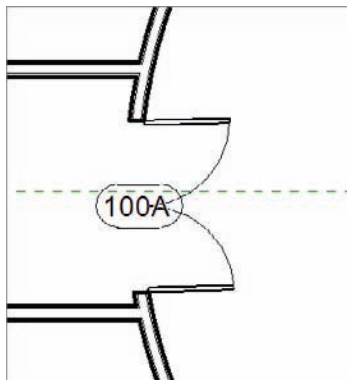

FIGURE 4.32 Adding a double door to the east wing corridor
1. Zoom in to the end of the corridor in the east wing of the building, as shown in Figure 4.32.
3. Place a Double Flush : 72" × 84" door in the radial corridor wall, as shown in Figure 4.32. As when you placed the window along the reference plane in the preceding procedure, don't try to eyeball the correct alignment; you want to purposely misalign the door.